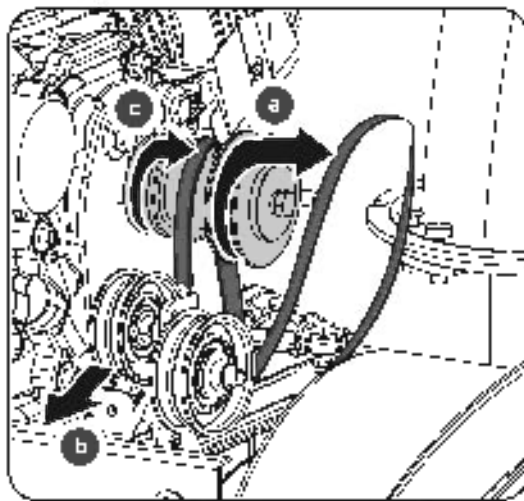

Figure 17a
- b. Pivot the idle pulley toward the right to relieve tension. (See **Figure 17a**)
- c. Lift the drive belt off engine pulley. (See **Figure 17a**)